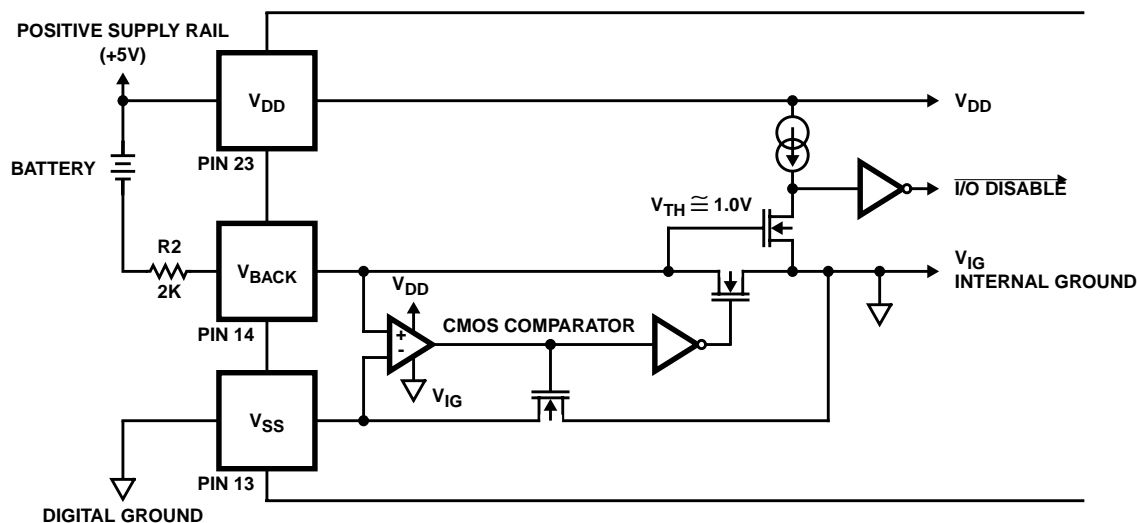

FIGURE 6. SIMPLIFIED ICM7170 BATTERY BACKUP CIRCUIT
The ICM7170 contains an on-chip power down detector that eliminates the need for external components to support the battery-backup switchover function, as shown in Figure 6. Whenever the voltage from the V_{SS} pin to the V_{BACKUP} pin is less than approximately 1.0V (the V_{TH} of the N-channel MOSFET), the data bus I/O buffers in the ICM7170 are automatically disabled and the chip cannot be read or written to. This prevents random data from the microprocessor being written to the clock registers as the power supply is going down.
The new load configuration (Figure 6) allows these two conditions to be met independently. The two load capacitors, C1 and C2, provide a fixed load to the oscillator and crystal. C3 adjusts the frequency that the circuit resonates at by reducing the effective value of the crystal's motional capacitance, C0. This minute adjustment does not appreciably change the load of the overall system, therefore, stability is no longer affected by tuning. Typical values for these capacitors are shown in Table 5. C1 and C2 must always be greater than twice the crystal's recommended load capacitance in order for C3 to be able to trim the frequency. Some experimentation may be necessary to determine the ideal values of C1 and C2 for a particular crystal.
4. **EXTERNAL BATTERY BACKUP** - The ICM7170 may be placed on the same power supply as battery-backed up RAM by keeping the ICM7170 in its operational state and having an external circuit switch between system and backup power for the ICM7170 and the RAM. In this case V_{BACKUP} should be pulled up to V_{DD} through a 2K resistor. Although the ICM7170 is always "on" in this configuration, its current consumption will typically be less than a microamp greater than that of standby operation at the same supply voltage (See Note 9). Proper consideration must be given to disabling the ICM7170s and the RAMs I/O before system power is removed. This is important because many microprocessors can generate spurious write signals when their supply falls below their specified operating voltage limits. NANDING \overline{CS} (or \overline{WR}) with a POWERGOOD signal will create a \overline{CS} (or \overline{WR}) that is only valid when system power is within specifications. The POWERGOOD signal should be generated by an accurate supply monitor such as the ICL7665 under/over voltage detector. An alternate method of disabling the ICM7170's I/O is to pull V_{BACKUP} down to under a volt above V_{SS} ($V_{SS} < V_{BACKUP} < 1.0V$). This will cause the ICM7170 to internally disable all I/O. Do not allow V_{BACKUP} to equal V_{SS} , since this could cause oscillation of the battery backup comparator (See Figure 6). $V_{BACKUP} = V_{SS} + 0.5V$ will disable the I/O and provide enough overdrive for the comparator.